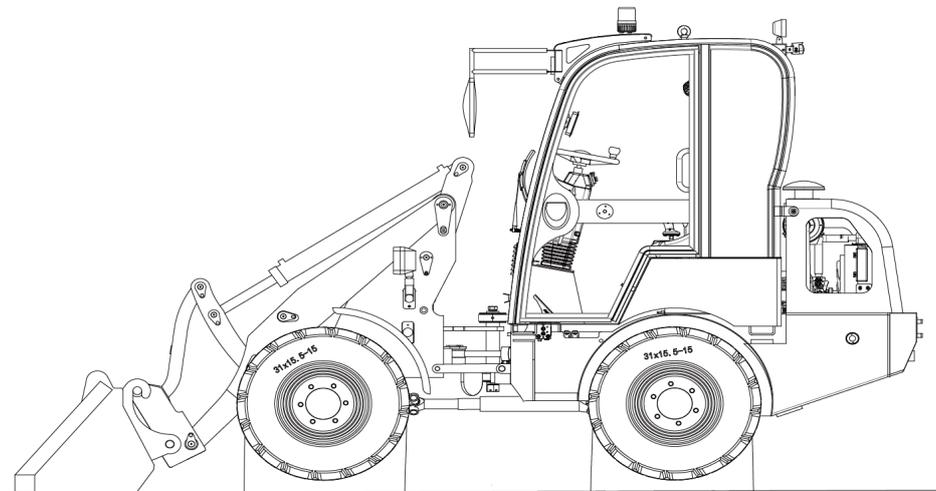

Figure 6-28 Parking state
(1) Brake fluid tank
Step 1: Park loader on a flat field, place control handle in neutral position, pull up parking brake handle, and put the blocks before and after the tires, as shown in Figure 6-28;